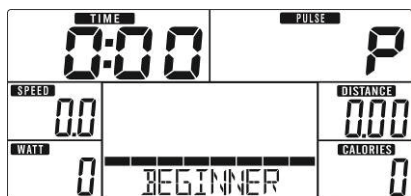

Fig. 8
1. Select one of the pre-set programme areas (BEGINNER, ADVANCE, SPORTY) with the UP/DOWN buttons and confirm the selection with the MODE button (Fig. 8–10).